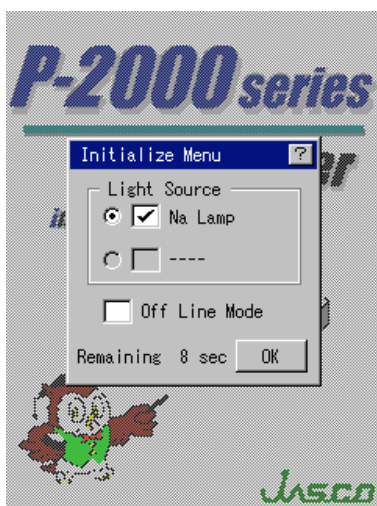

Figure 3.1 Light source selection window
- (1) Turn the “Power” switch located on the left side of the front of the polarimeter to “ON” to initialize the instrument.
- (2) The light source selection window of Fig. 3.1 is displayed. Press the checkbox of the light source to toggle the light source and instrument control ON and OFF. An item is ON when its checkbox is selected. Pressing an item toggles it ON and OFF.